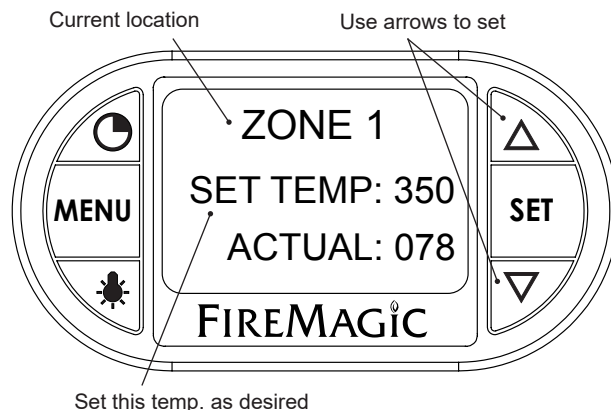

Fig. 32-1 Area temp. screen (zone 1 shown)
2. The selected location's temperature screen will be displayed. Use the arrows to set the desired temp. The actual temp. will also be shown. See Fig. 32-1.